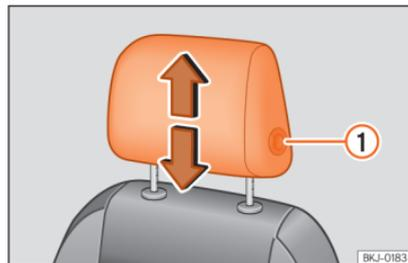

Fig. 120 Front seat: headrest adjustment.
- Move the headrest up or down in the direction of the corresponding arrow. Regarding the rear headrest, to both raise and lower, press the button » **Fig. 120** ⓘ; for the rear headrests it is only necessary to press the »
- Press the side button »» Fig. 120 ① and remove the headrest.